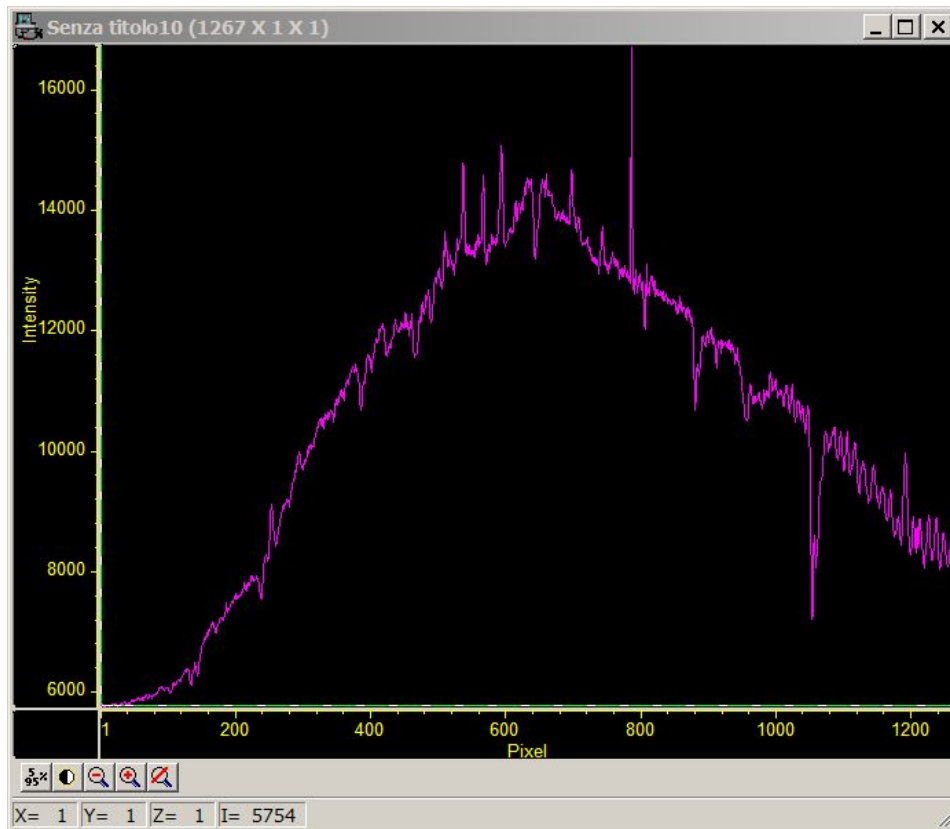

Figure 55
- The plot of the 2D spectrum will be displayed as in *Figure 55*. You can close it without saving.